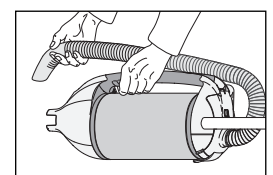

Figure 7
Detachable Suction Unit - When detached from the power head, or floor tool, the FELIX transforms itself into a lightweight, powerful suction unit, which can be carried around using its comfortable carrying handle (figure 7). Ideal for cleaning stairs, car interiors or upholstery. To remove a floor tool or power head, switch off the power and unplug the vacuum. Press the tool release button (14) and pull the vacuum out of the swivel neck (20).